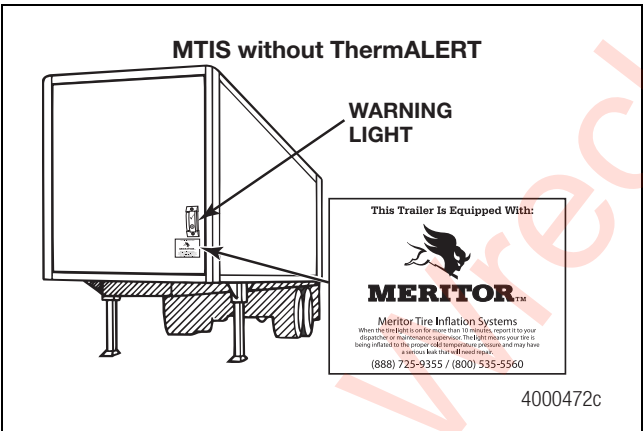
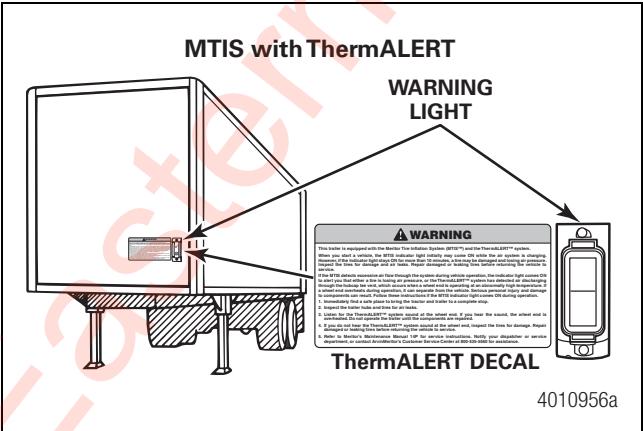

Figure 2.81
Figure 2.82
2. Install the warning light decal near the light. Figure 2.81 or Figure 2.82.